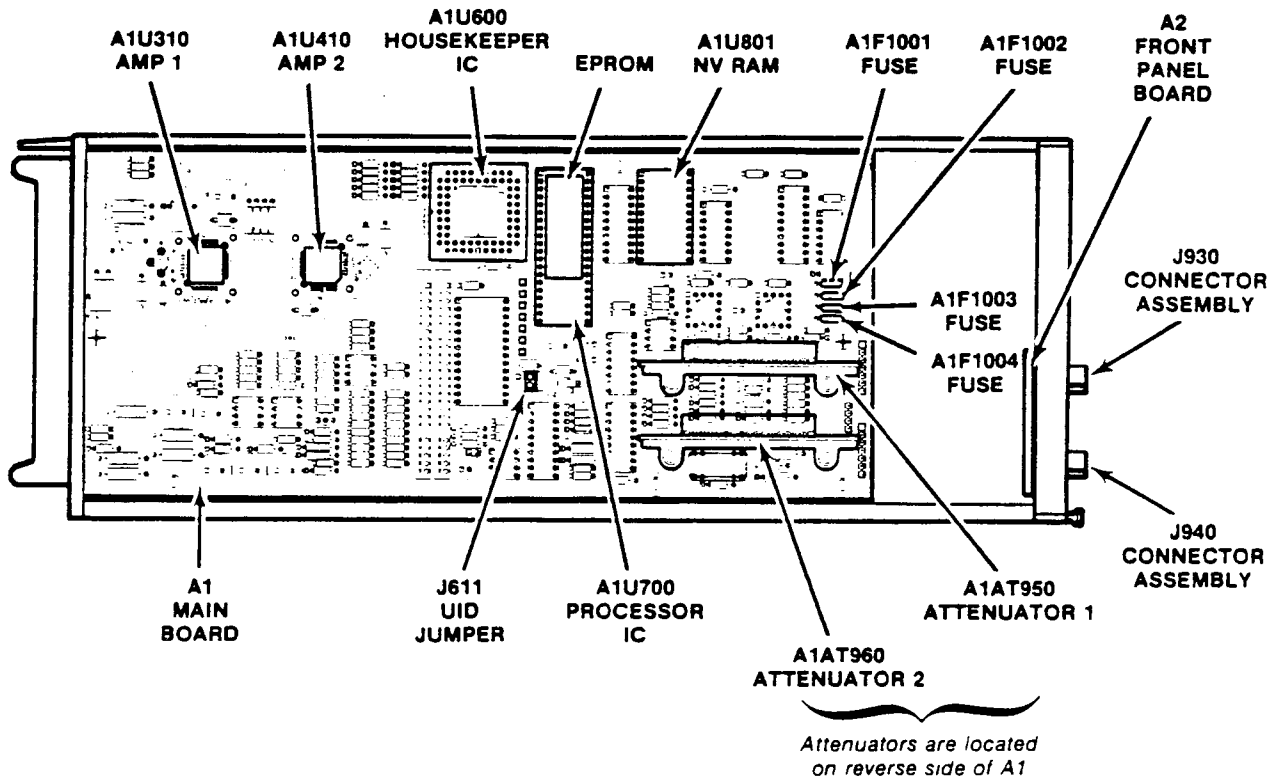

Figure 1. - Main circuit board A1.
- () 2. Remove U700, EPROM microcircuit, using an Insertion - Extraction Pliers (such as General Tool's pn U505BG, a 28-pin type). Position the pliers around the outside of the EPROM microcircuit. Squeeze the handles to grasp the EPROM and slowly pull it from the socket. Refer to Figure 1, for component location.